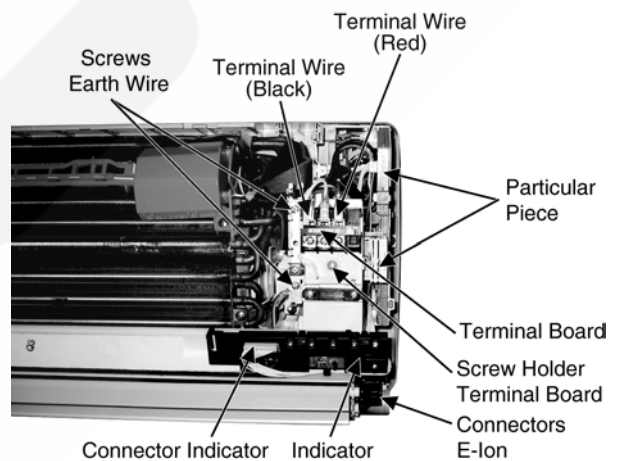

Fig. 3
- Release the 2 screws for the earth wire. (Fig. 3)
- Pull out 2 terminal wires (Red and Black) from the Terminal Board. (Fig. 3)
- Detach the connector Indicator and release the Indicator. (Fig. 3)
- Release the 2 Particular Piece. (Fig. 3)
- Release the screw Holder Terminal Board. (Fig. 3)
- Release the 2 connector E-Ion. (Fig. 3)